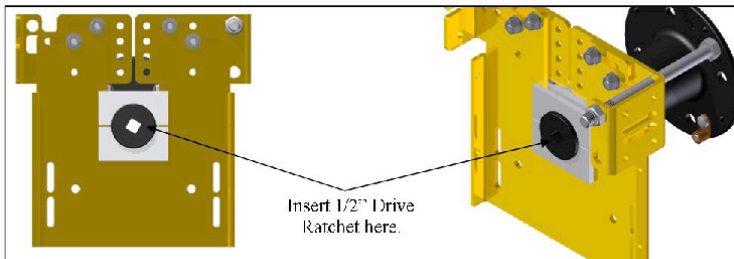

Fig. 2
Step 3: Move to the end opposite of the motor on the Infinity 4000 Mechanism. Insert a 1/2" drive ratchet into the end casting of the roll-up tube, crank the ratchet in the direction needed to open the cover (**Fig. 2**).